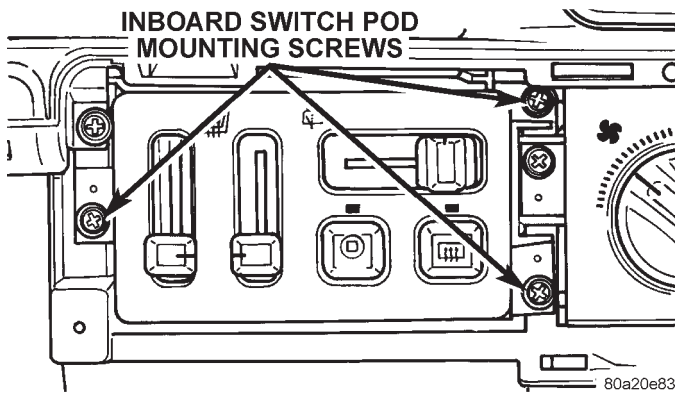

Fig. 1 Inboard Switch Pod Remove/Install
(3) Remove the three screws that secure the inboard switch pod to the instrument panel (Fig. 1).